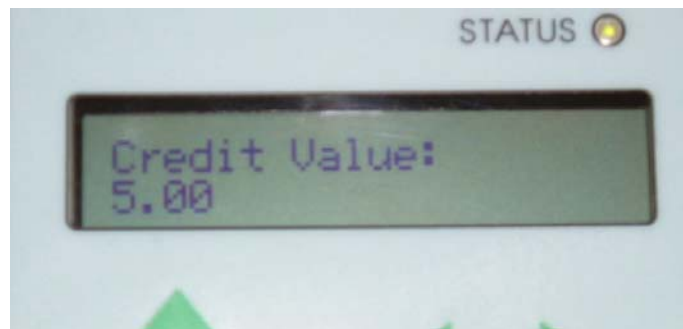

Figure 15
2. If you wish to credit money to the user card, use the *plus* arrow on the keypad to show **Credit Value:** on the lcd. See Figure 15.